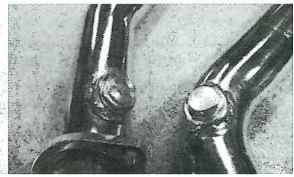
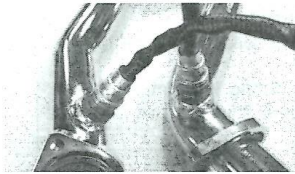
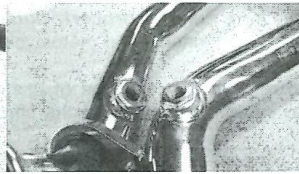

Figure 2.4 Install adapters and plugs (04-06)
Figure 2.5 Install O2 sensors models (04-13)
Figure 2.6 Install O2 adaptors (14-up)
4. If equipped Install O2 sensors (from stock) on head pipes using anti-seize compound apply it to the thread only. Be careful not to use too much or to make contact with the tip of the sensor as it may affect its functionality. Models (04-06) install an adaptor 18mm-12mm then use the 12mm plug. (See figure 2.4) (04-13) install sensor in bong as it is with no adaptors. (See figure 2.5) (14-UP) models install the adaptor to reduce from 18mm to 12mm bung now install the sensors in place. (See figure 2.6 and 2.7)